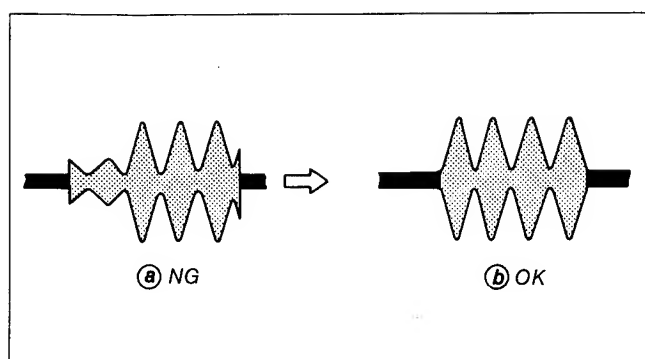

Fig. 8-60.
- 3) Confirm the waveform in the **REV** mode. (Refer to Fig. 8-60.)
- When a normal waveform is not obtained (Fig. 8-60 a); Preset the No.2 guide height and go through the following adjustment: